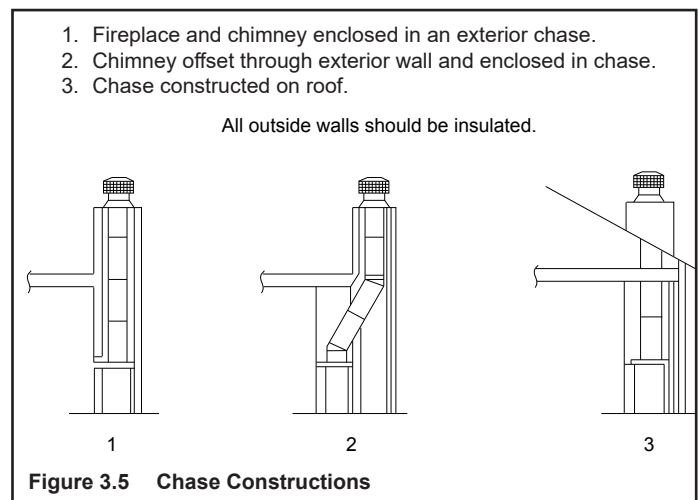

Figure 3.5 Chase Constructions
Three examples of chase applications are shown in Figure 3.5.
- Remove back refractory from outside of fireplace by bending tabs up and lifting refractory out of brackets. See Figure 3.5.